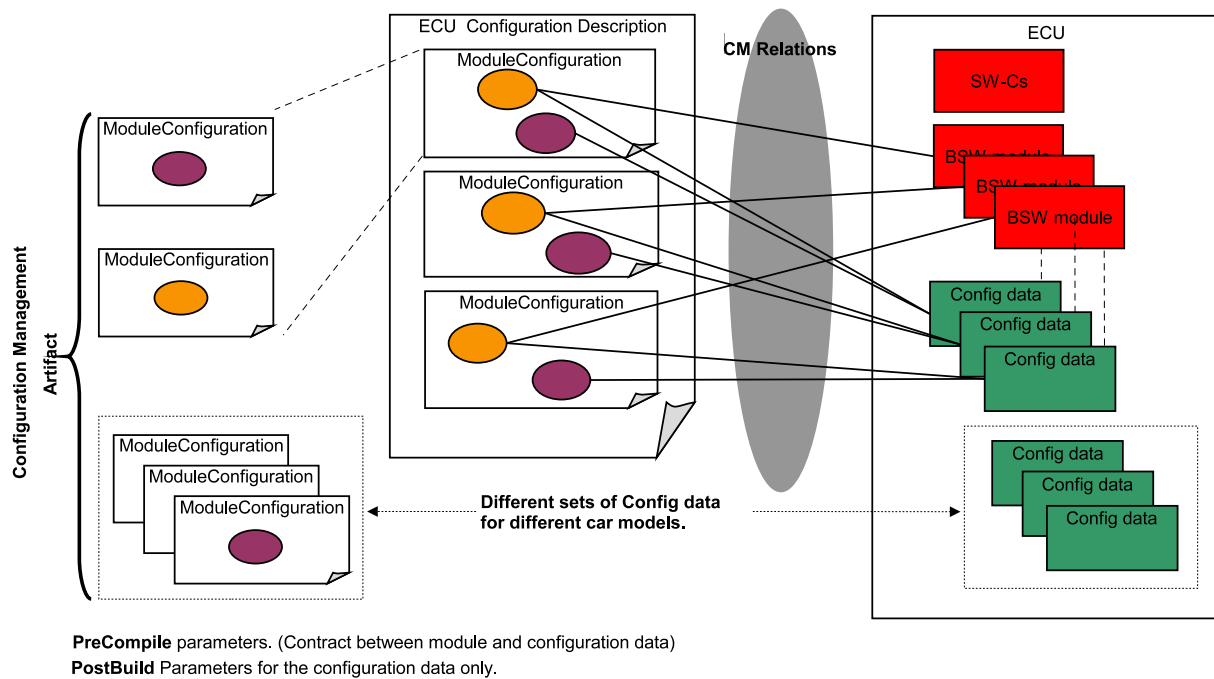

Figure 2.12: Configuration Management Artifacts(CMAs) and post-build time loadable configuration.
In figure 2.12 the relationships between `ModuleConfigurations` describing different aspects and the SW articles with their unique part numbers are shown. Note that the relationships are Configuration Management(CM) relations. This means if a parameter in the `EcucModuleConfigurationValues` describing the post-build aspect is changed it is only needed to re-build the configuration data, the rest of the SW articles in the ECU remain untouched. If a parameter in a `EcucModuleConfigurationValues` describing the pre-compile aspect is changed the BSW module needs to be re-build. The configuration data must also be re-build if the `EcucModuleConfigurationValues` contains e.g. a pre-compile time parameter with the attribute "PC affects PB". See chapter 2.3.4.1.1. Each `EcucModuleConfigurationValues` describing a certain aspect, e.g the post-build aspect, must be put under Configuration Management as a Configuration Management Artifact(CMA).
Another use case where `ModuleConfigurations` describing different aspects must be Configuration Items, is for different car models which can have different set of configuration data, but the rest of the SW in the ECU is the same for all car models. See figure 2.12.